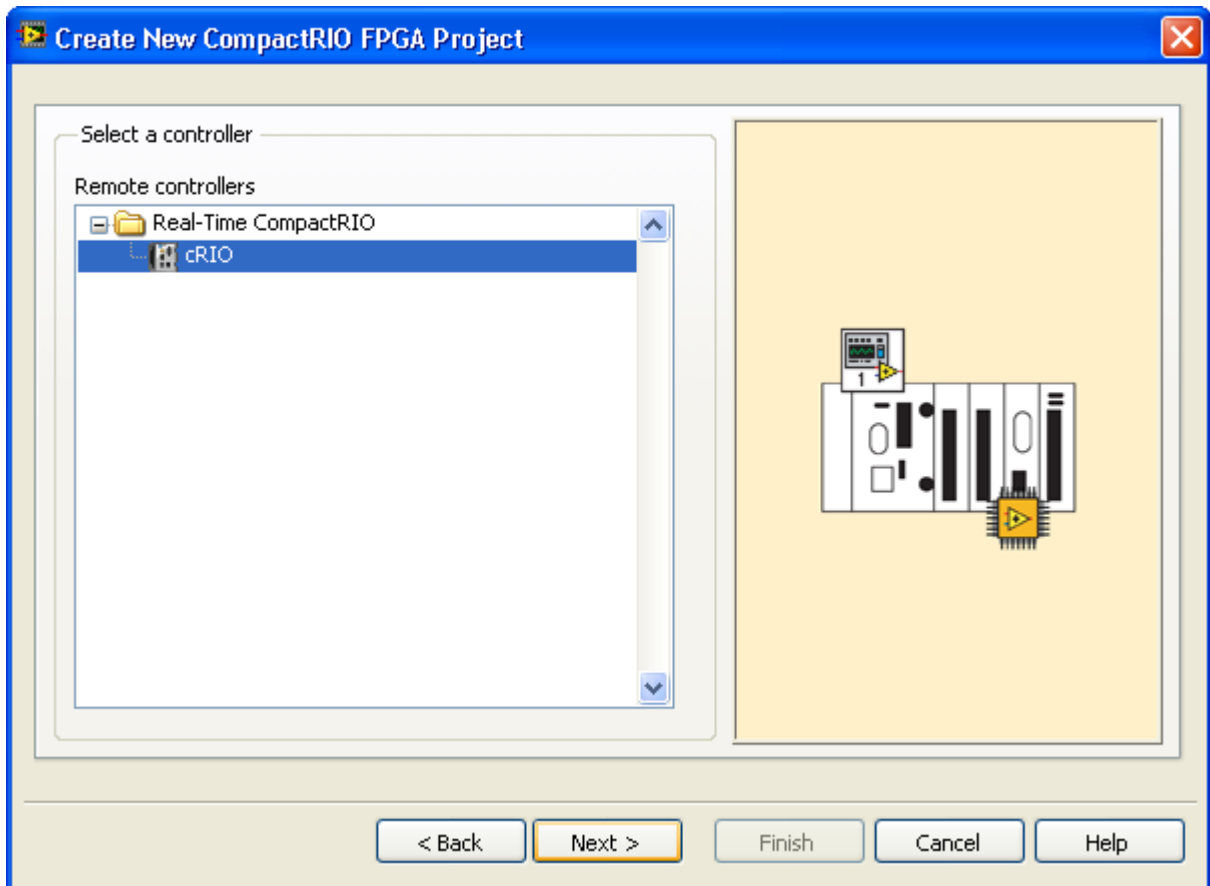

Figure A4 Create New CompactRIO FPGA Project Window- select a controller
4. When LabVIEW discovers cRIO, click Next on the next screen as shown in Figure A4.